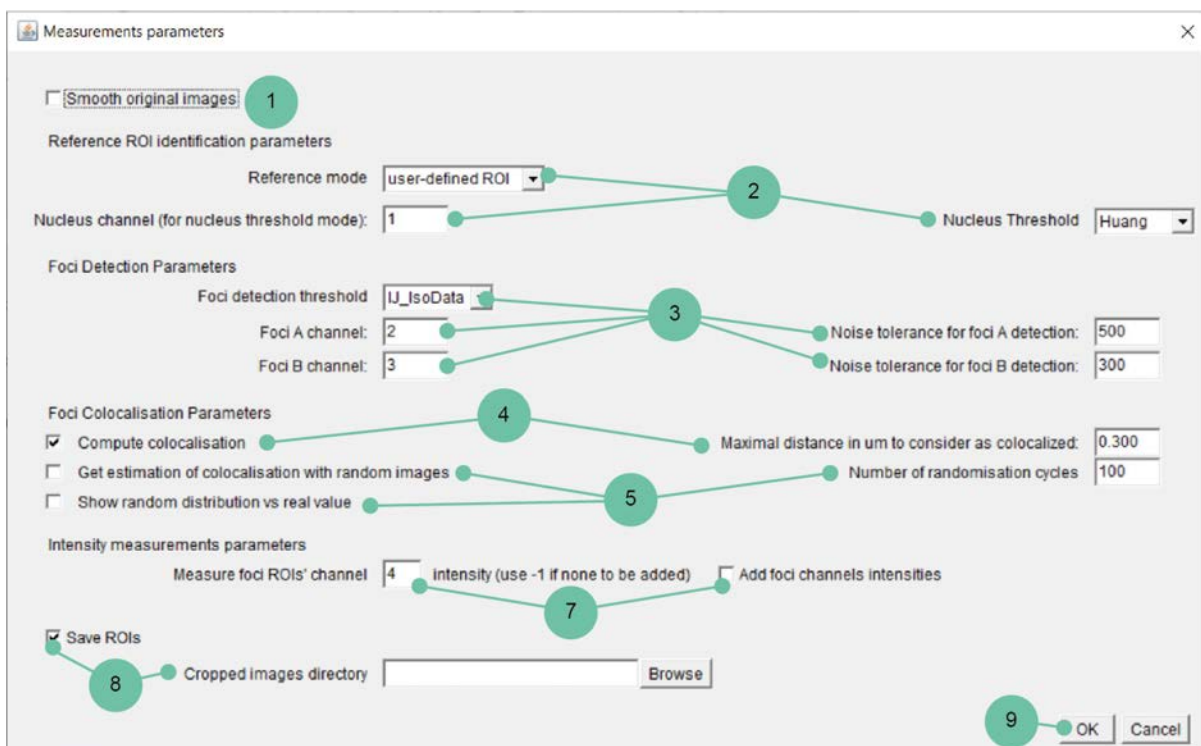

Fig. 3.1. The "Count foci in two channels and colocate" menu. User intervention is not necessary for step 6.
**STEP2.** Choose the region of interest (ROI) to be used for measurements. You can either select a user-defined ROI (created by cropping the image). When opting for this reference mode, you can proceed directly to **STEP3** without the need to fill in the nucleus channel and threshold fields. The other option is to use a thresholded nucleus staining (fig. 3.1). Fill in the appropriate fields. These ROIs will be referred to as the "reference ROI" below.
**STEP 4.** If you choose to use the colocalisation option (by selecting the compute colocalisation checkbox as shown in fig. 3.1), a mask of the total foci is created (assuming some maxima were found in the reference ROI). This mask is then used to generate a 32-bit euclidean distance map, which can be created manually using the Process>FindMaxima command and selecting the single points output, followed by process>Binary>Options and choosing 32-bits as EDM (Euclidean Distance Map) output, and then running process>Binary>Distance Map.
**STEP 5.** You may want to consider verifying whether the observed colocalised pixels in both channels could have occurred randomly. To do this, you can select the "get colocalisation with random images" option. Please note that this option will not be available if the "compute colocalisation" checkbox is not selected (fig. 3.1).
Next, each random foci distribution is compared to the observed foci localisation (fig. 3.5) in the other channel using the corresponding euclidean distance map ROI (for example, random fociA\_0 (maxima) with colocalised area fociB). You can specify the number of random images to be generated in the "number of randomisation cycles" field (fig. 3.1). It is recommended to use a number of cycles greater than 30 to increase the likelihood of obtaining a normal distribution of randomly colocalised foci.
If the "compute colocalisation option" is selected (**STEP 4**, fig. 3.1) the macro checks for a triple overlap between i) the individual ROI, ii) the corresponding total\_foci, and iii) the colocalized area created at **STEP 4** using the total maxima of the other channel. If such an overlap exists, the particle (and its associated individual maximum, if generated following the **OPTIONAL STEP A** configuration) are marked as colocalized using the corresponding ROIgroup (as illustrated in figure 3.4). If no overlap is detected, and the particle overlaps with a maximum ROI (in this case, total\_fociA (maxima)), the particle is marked as not colocalized.